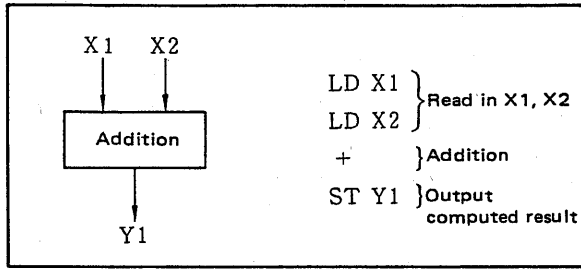
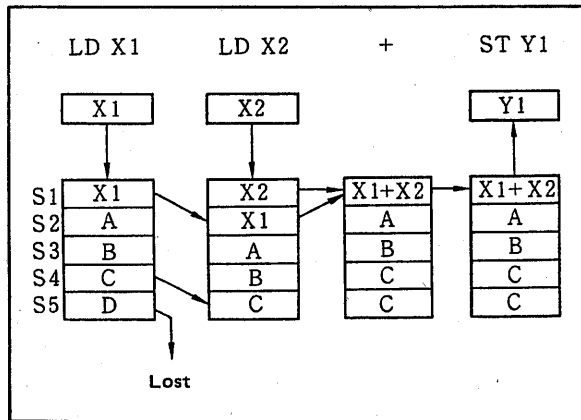

Figure 4-2-1. Two-Input Adder and Program.
Figure 4-2-2. Behavior of Arithmetic Registers Associated with the Sample Program.
The SCMS performs three basic operations. It reads the input signal, computes, and outputs the computed result. The example in Figure 4-2-1 shows how to program the addition of two input signals. Figure 4-2-2 shows how the stack registers S change during the program. All computations are performed in the common stack registers S. Connection of signals to the registers - that is, input to the S registers - is performed by means of the LOAD (LD) instruction. The S registers, S1 thru S5, comprise a "stack," and data in S is pushed down (S1 to S2, S2 to S3, and so on) each time new data is input by the LD instruction.